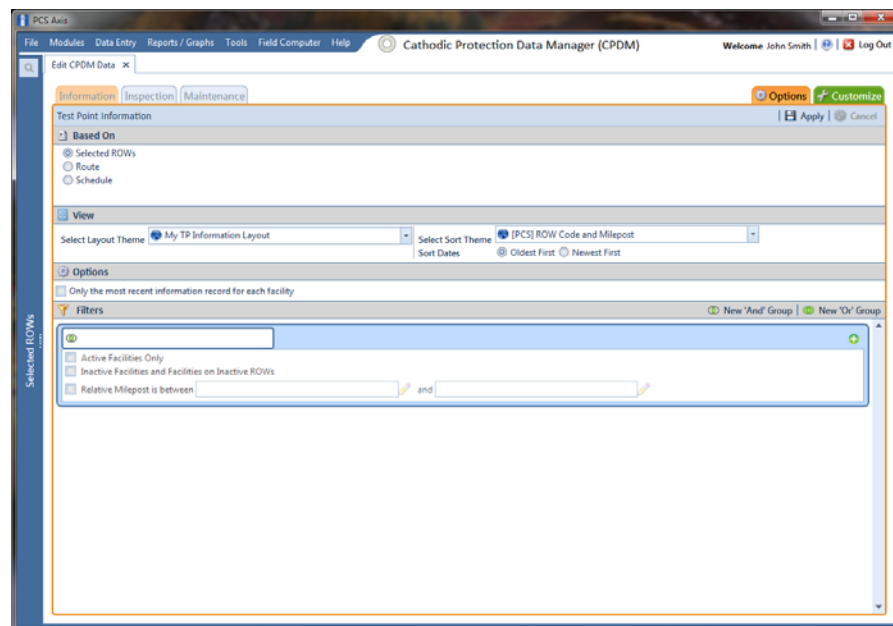

Figure 7-42. Options/Information Grid
- 3 Click the **Options** tab **Options** to open the *Options* page (Figure 7-42).